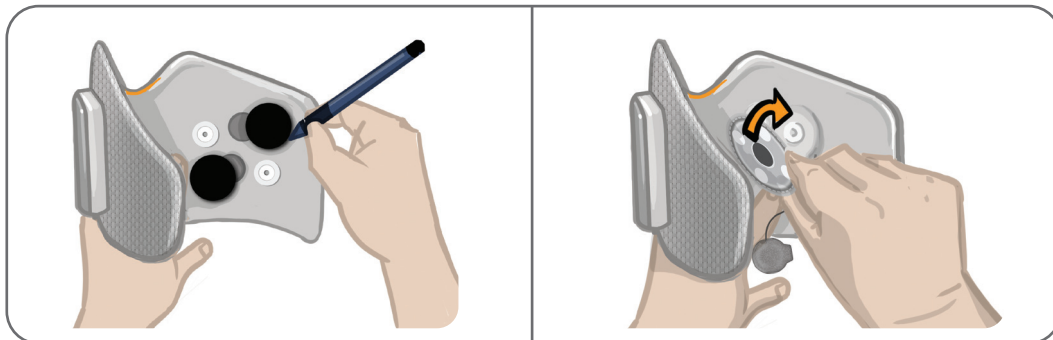

Figure 8-7: Mark Position of Electrode Base (Left)
2. Mark the position of the used electrode bases on the cuff liner with a permanent marker. See Figure 8-7.